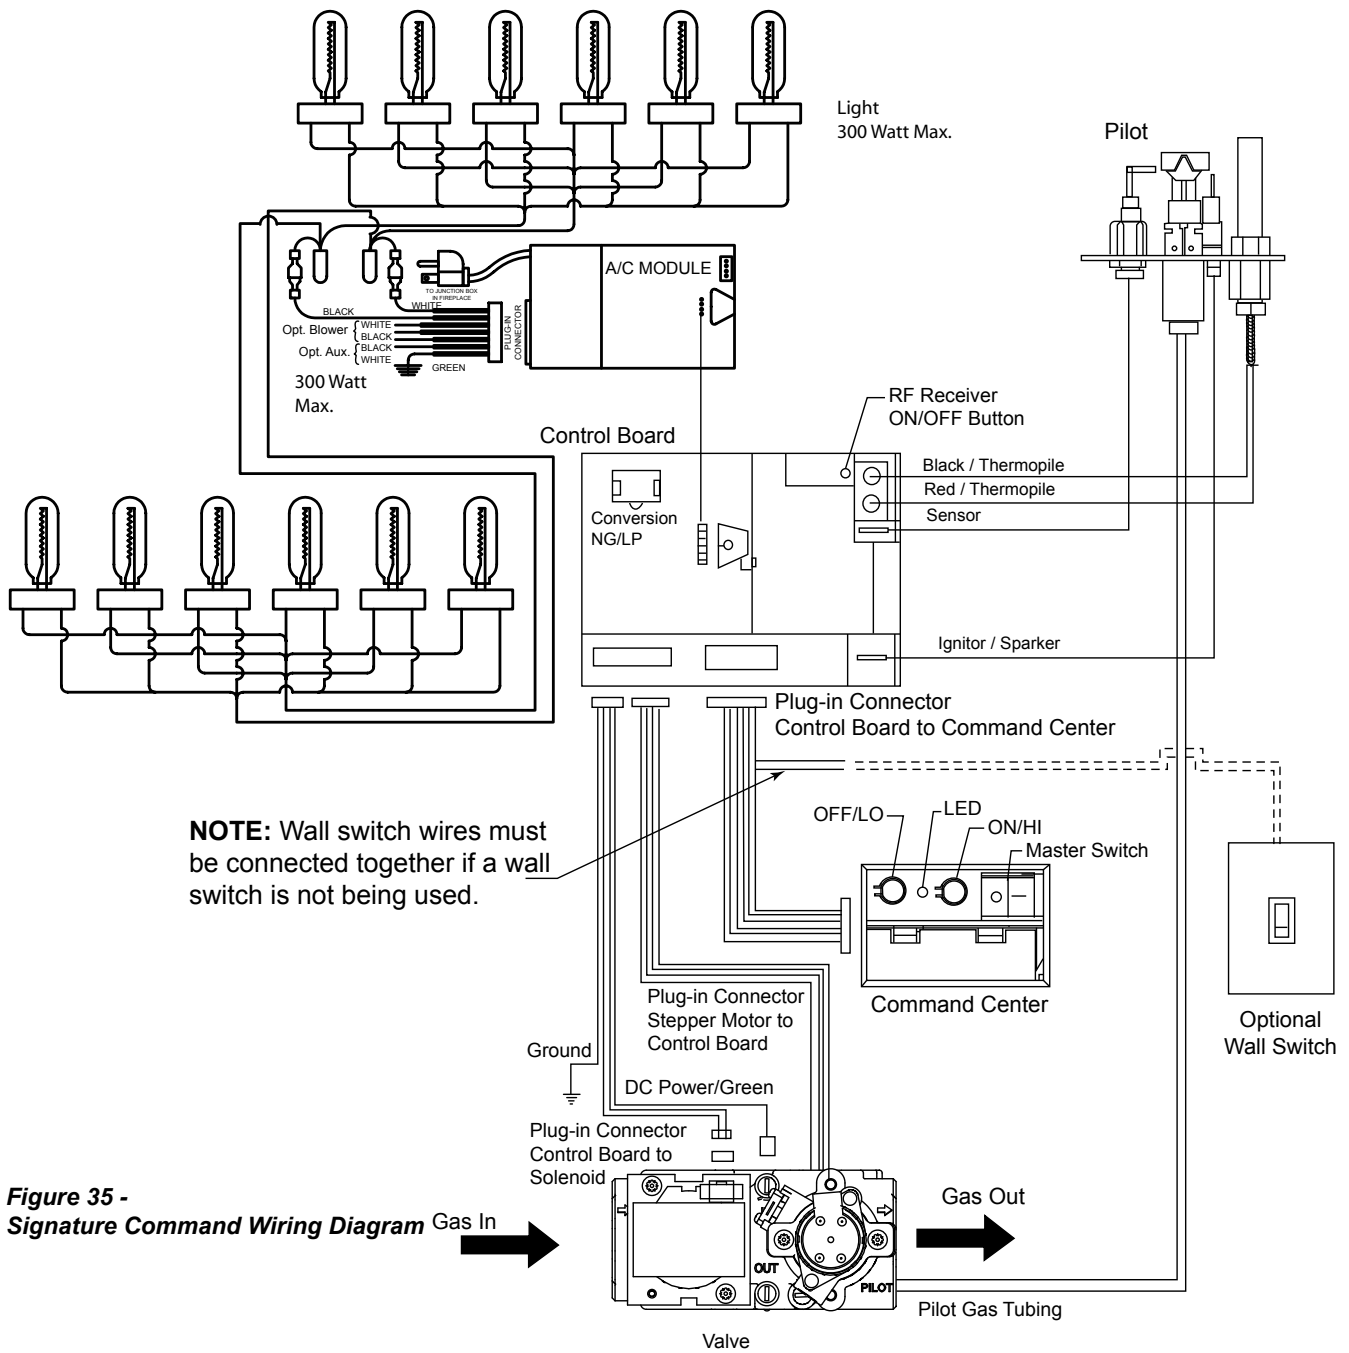

Figure 35 - Signature Command Wiring Diagram
The wall switch wire connection is located off the 2 ft. wire harness from the control box to the command center. Figure 35. The connection is labeled "Wall Switch". Unplug the male and female connectors and connect the two (2) low voltage wires provided. Run wire to desired location on wall. Up to 50 ft. of 18 ga. wire may be used if necessary. Attach wires to wall switch. Mount the wall switch in to junction box and screw on cover.